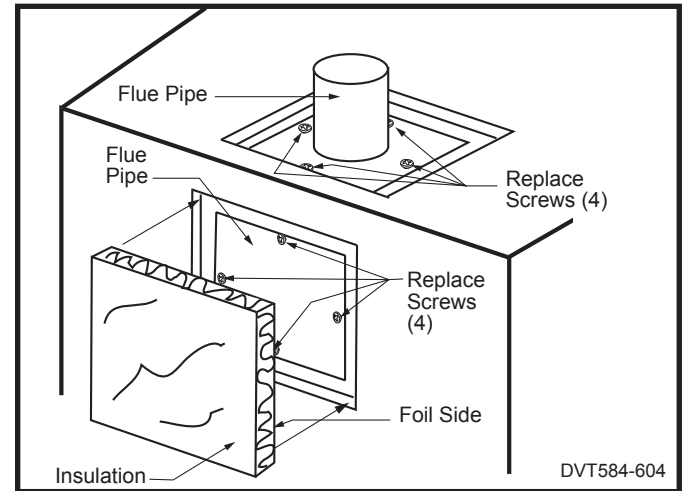

Fig. 12 Replace flue cover and flue pipe.
6. Secure flue cover to back of flue outlet. Be sure to replace gasket. (Fig. 12)
7. Install flue pipe to top of unit with four (4) screws. Be sure to replace gasket. (Fig. 12)
9. Secure outer collar adapter to unit with the round collar on top, secure with eight (8) screws.
8. Secure flue cover to back of flue outlet. Be sure to replace gasket. (Fig. 12)
9. Install flue pipe to top of unit with four (4) screws. Be sure to replace gasket. (Fig. 12)
11. Secure outer collar adapter to unit with the round collar on top, secure with eight (8) screws.